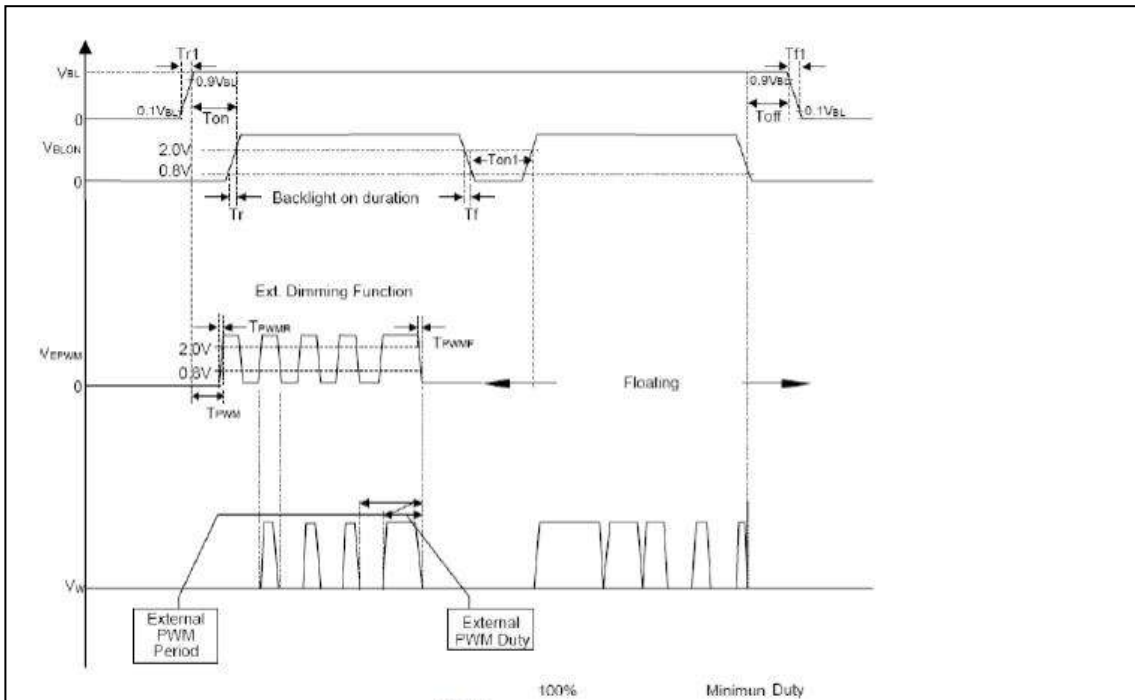

Fig.1
- Note 11: The Converter interface please refers to Fig.1.